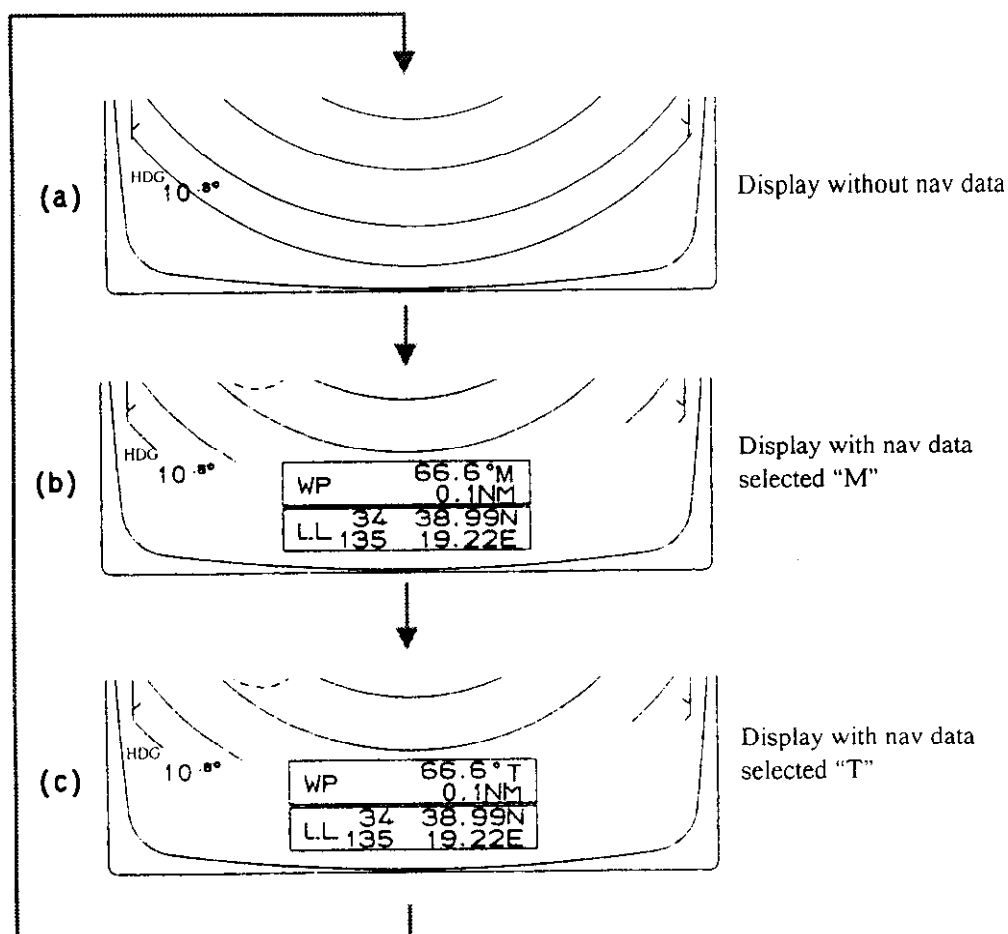

Fig.1-18
1. Press the MODE touchpad while keeping the HM OFF touchpad pressed, and WP (Waypoint, with bearing "M") and LL (Latitude/Longitude) are displayed, provided that the waypoint number is not indicated. See Fig.1-18(b).
2. Repeat step 1 to show WP with the bearing "T". See Fig.1-18(c).
3. Repeat step 1 again to cancel the WP/LL indication. See Fig.1-18(a).